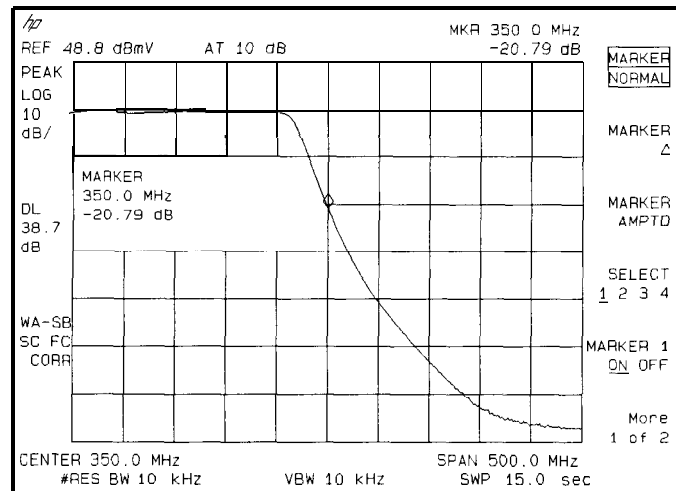

Figure 5-10. Measure the Rejection Range with Delta Markers
9. To measure the rejection of the filter at a given frequency, press **(MKR)**, and enter the frequency. For example, enter 350 MHz. The marker readout displays the rejection of the filter at 350 MHz (see Figure 5-10).